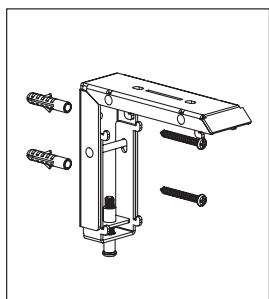

Fig. 4
2. **Mounting on concrete structures:** Mark the hole positions on your wall using the brackets and drill holes that match the enclosed dowels. The dowels must fit tightly into the holes. If the dowels fit loosely into the holes, the holes have been drilled too large and larger dowels and screws must be used or new holes must be drilled. Insert the dowels completely into the holes and screw the brackets tight with the screws provided, as shown in Figs. 4 and 5.